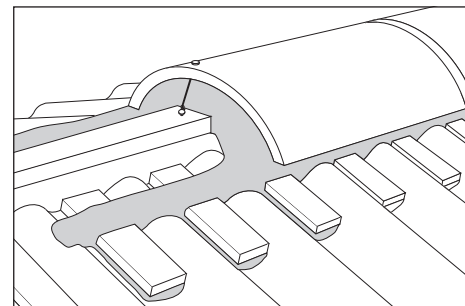

Fig. 21 – Mortar bedded ridge using dentil slips for deep profiled tiles
- 8 A mortar bed approx 10mm thick should be provided to bed the dentil onto (Fig. 21).